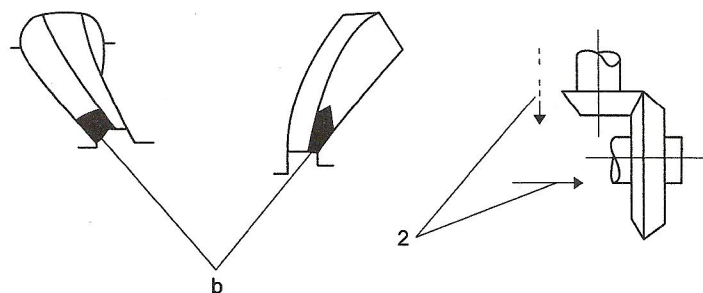

Fig. 05-47
- (2) In case the engagement trace is like what is shown as (b), then move the driven gears away the driving gears. If finding the clearance is too much, then move the driving gears inner-wards. The direction for moving gears is shown in (2) (Please see Fig. 05-47).